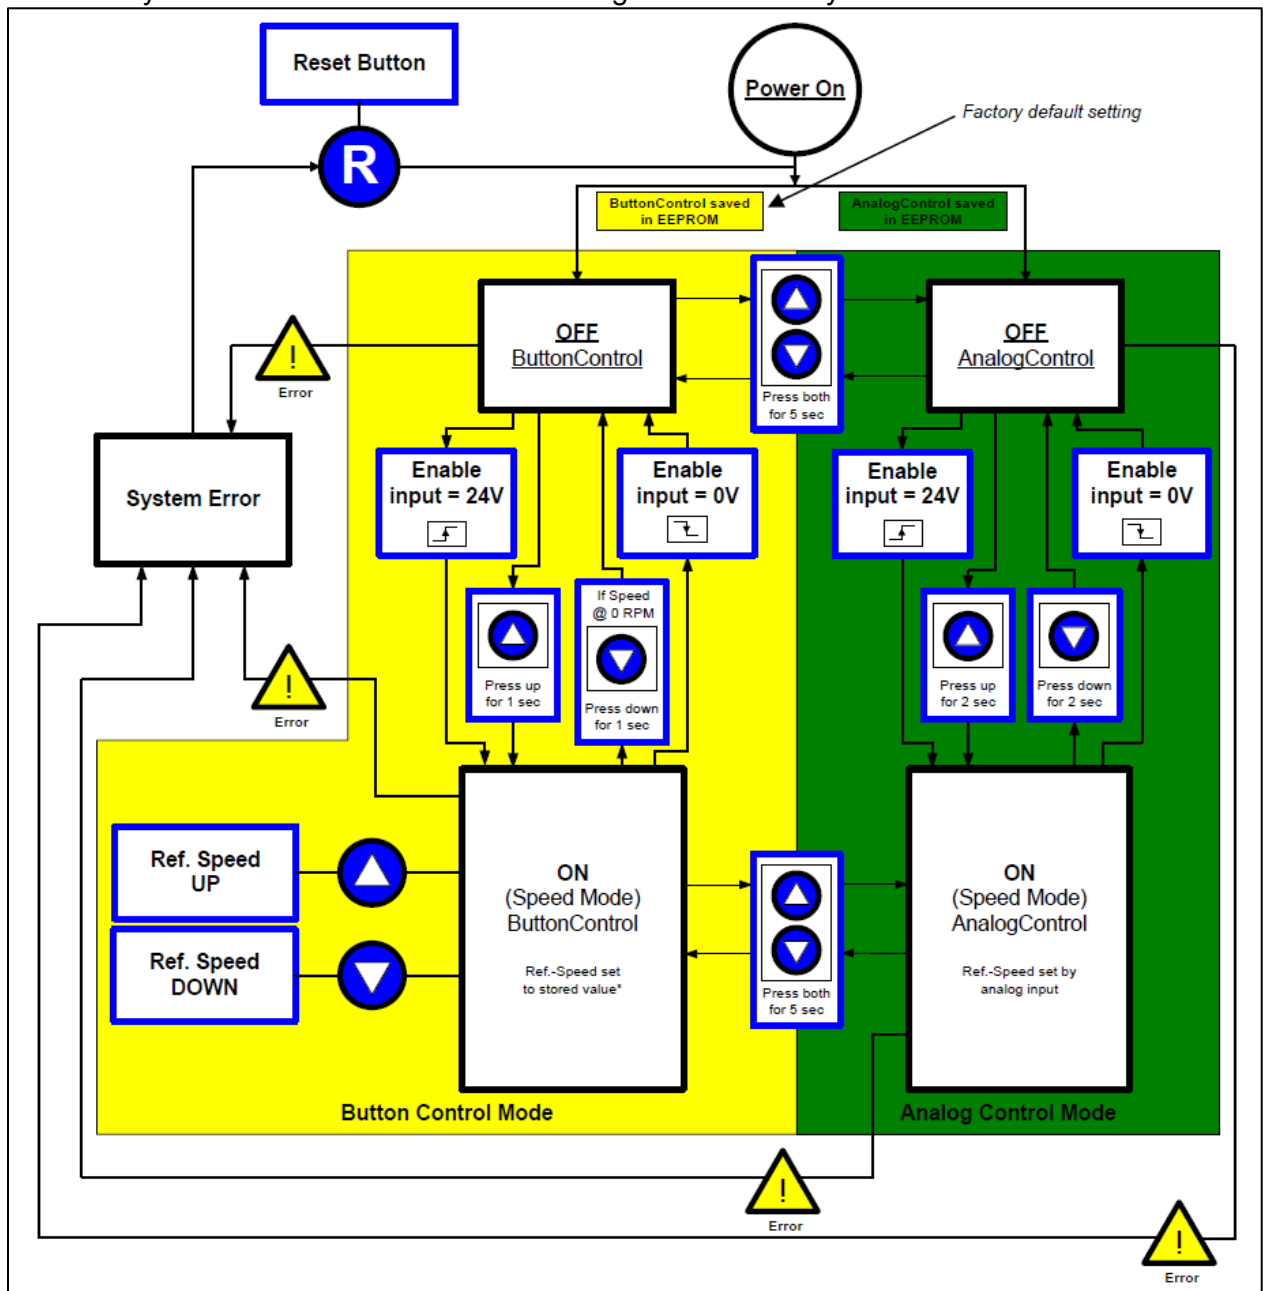

Figure 27 - State Diagram for Standalone Controller Operation
The standalone controller allows operation with manual speed setting (Button Control Mode) as well as extended operation with analog speed setting (Analog Control Mode). Figure 27 shows the state diagram, which can be controlled with the manual buttons and the signals on the “USER INTERFACE” connector. The operation mode can be chosen by pressing the “UP” and “DOWN” buttons simultaneously for five seconds. The default setting from the factory is “Button Control Mode”.
- When applying power the system defaults into the “*Button Control Mode*” and goes into the status “*OFF Button Control*” according to Figure 27. Levitation is disabled and the display indicates “*OF*”.